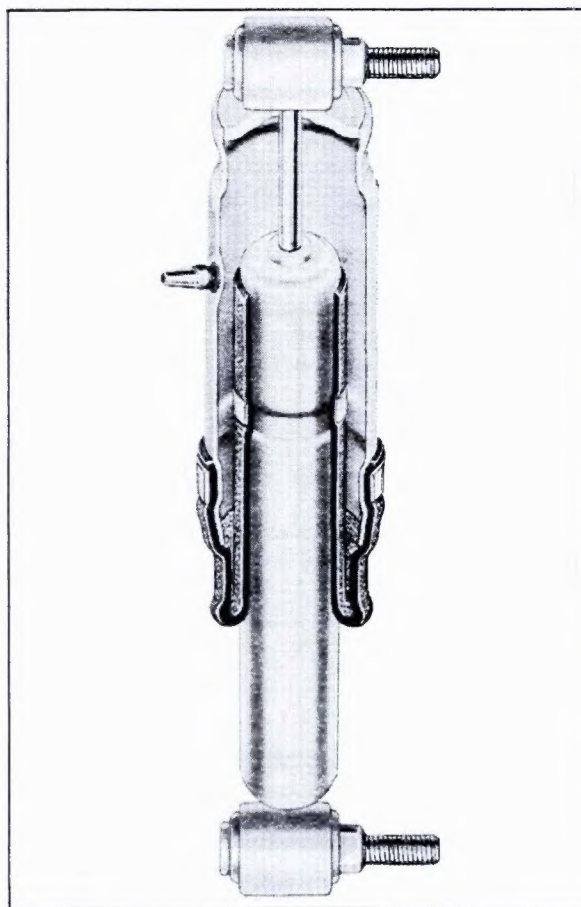

Fig. 4-3 Superlift Shock Absorber
e. Superlift Rear Shock Absorber (Fig. 4-3)